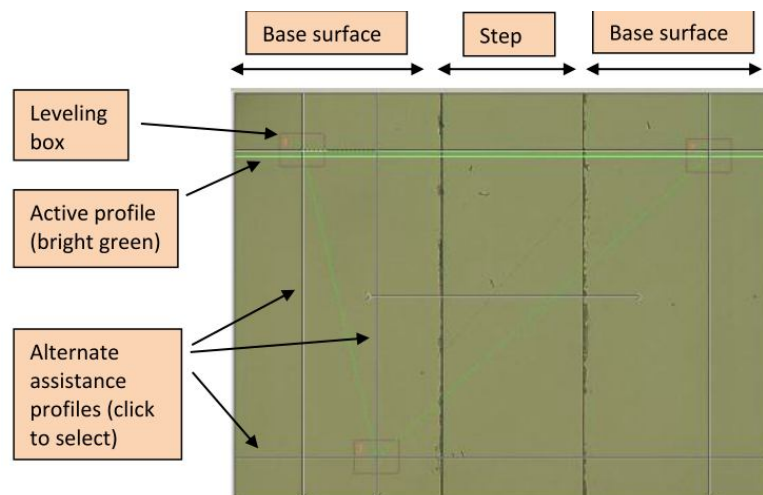

Figure 20. Leveling boxes for setting reference surfaces
- Right Click on the 2D Composite View and select 'Add Reference Surface'. Three boxes appear on the 2D Composite View image, with lines connecting their center points. The triangle formed by these lines defines the reference surface. Figure 20 shows the leveling boxes for a surface with a known step feature running down the center of the image.
- Observe the line profile pane for assistance. Vertical and horizontal lines are drawn through the center points of the boxes in the 2D Composite View pane, six lines in all. One line is the active line and is colored green; the profile of this line appears in the 2D Line Profile pane. The active profile changes as you click on different lines. These profiles help you to decide where to move the leveling boxes. As shown in figure 20, the boxes are all positioned on the base surface and not on the step feature.